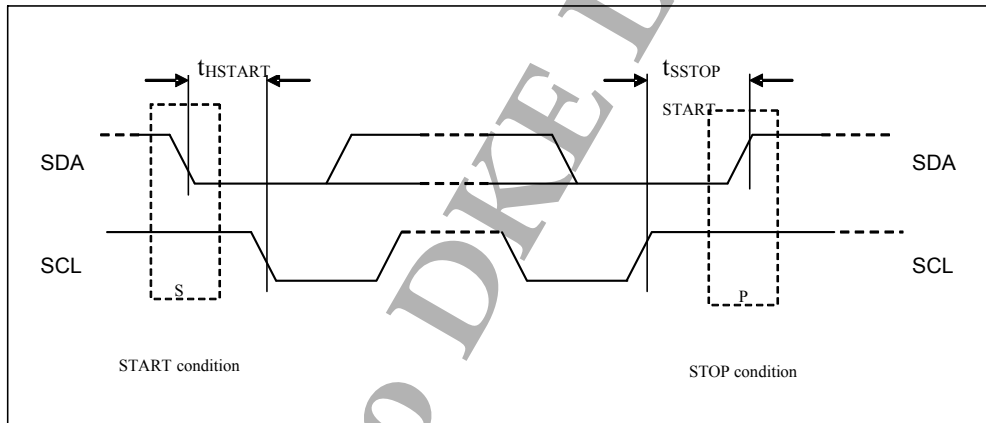

Figure 6-5 : Definition of the Start and Stop Condition
- 1) The master device initiates the data communication by a start condition. The definition of the start condition is shown in Figure 6-5. The start condition is established by pulling the SDA from HIGH to LOW while the SCL stays HIGH.
- 7) The write mode will be finished when a stop condition is applied. The stop condition is also defined in Figure 6-5. The stop condition is established by pulling the "SDA in" from LOW to HIGH while the "SCL" stays HIGH.